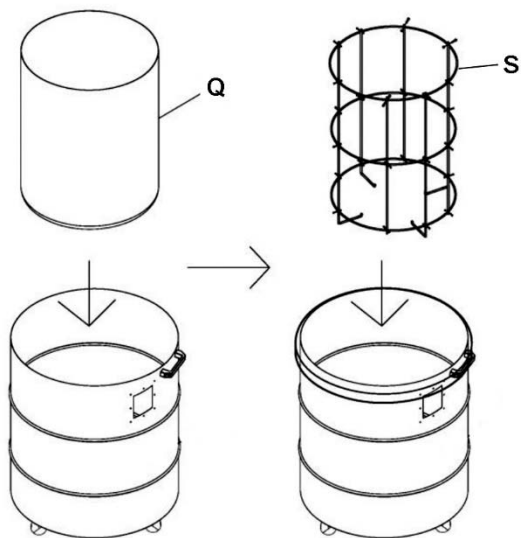

Figure 14
19. Place drum collection bag (Q) into drum with its top edge wrapped around top edge of drum. Place bag frame (S) inside bag and press all the way down. See Figure 14.